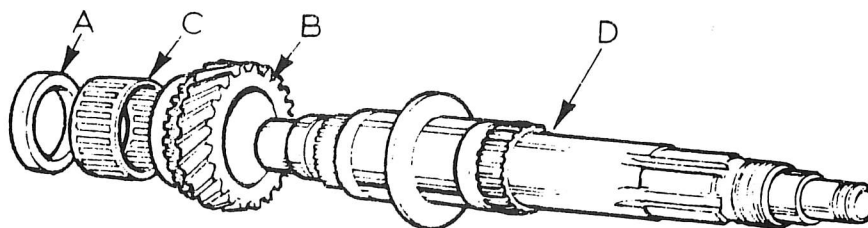

Fig. 25. 3rd. GEAR AND 3rd. MOTION SHAFT
12. Remove the 3rd. gear baulk ring spacer for bearing (A, Fig. 25), 3rd. gear (B, Fig. 25.), and needle bearing (C, Fig. 25) from the 3rd. motion shaft, (D, Fig. 25). From the rear of the casing, using drift (18G1155), push out the 3rd. motion shaft. The action of pushing out the shaft will release the final drive pinion.